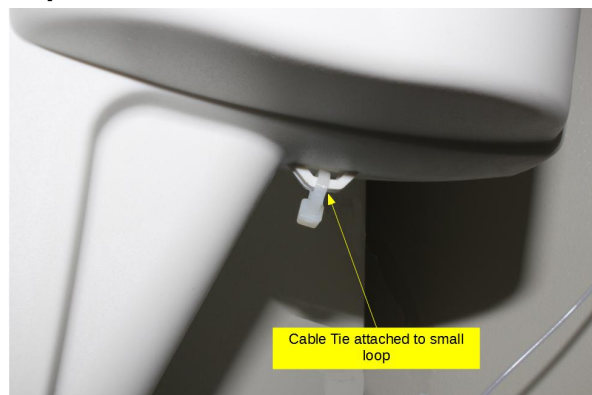

Figure 1: Orientation of *Cable Tie* through the loop.
- Use a 4" *Cable Tie* (619104) to make a small loop as shown in **Figure 1**.